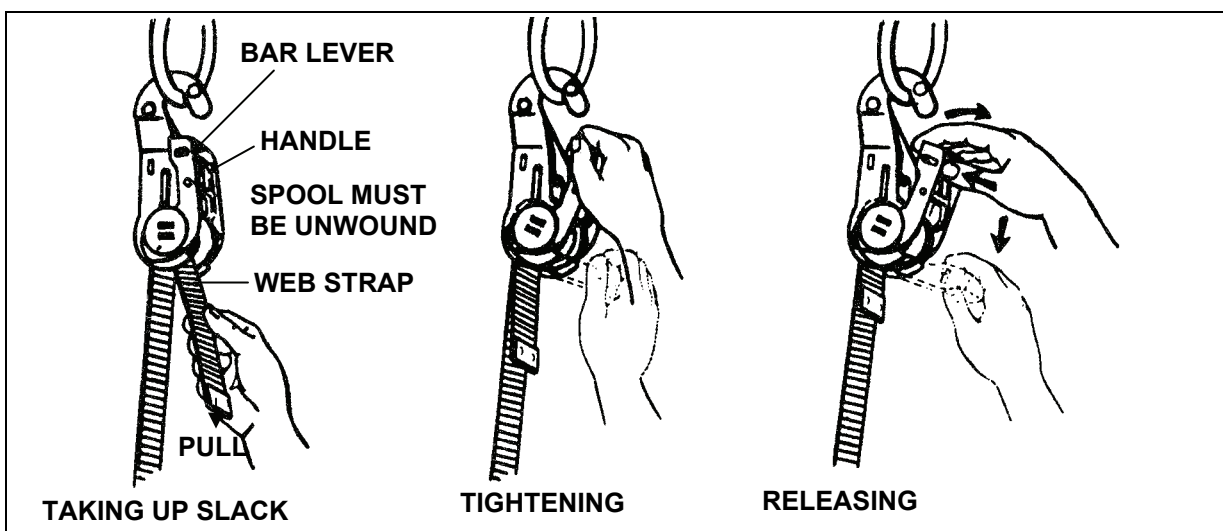

Figure 8-39. CGU-1/B 5,000-Pound Capacity Tiedown Strap
- **CGU-1/B Cargo Tiedown Strap.** The CGU-1/B 5,000-pound capacity cargo tiedown strap is used to restrain cargo in vehicles and trailers (Figure 8-39). The tiedown strap is also used between the prime mover and towed or tandem loads, such as M998 truck and M101 trailer to prevent the truck and trailer from pivoting in flight. To operate the tiedown strap, attach the fixed hook of the strap to the cargo or over the cargo to a tiedown ring if the cargo does not have tiedown provisions. Then attach the hook and ratchet end to a tiedown. Make sure that the spool on the ratchet is completely unwound. Apply tension by pulling on the end of the webbing that passes through the spool. While holding the webbing, operate the handle with a rocking motion to tighten spool. Do not force with added leverage. To release, depress the release bar handle in while turning handle to the full open position.